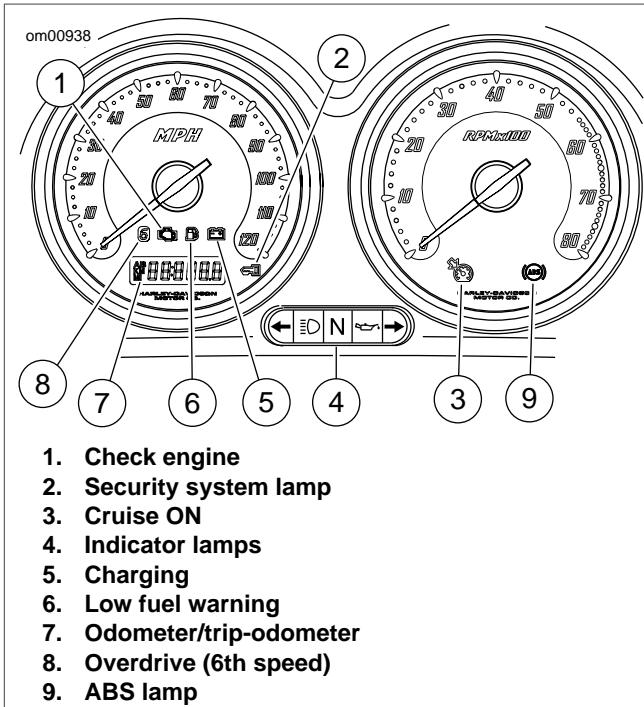

Figure 7. Warning Lamps: FLHTCUSE3
See Figure 7. The odometer (7) registers the number of miles/kilometers the vehicle has traveled. Odometer will display mileage when bike is OFF when function button is pressed. There is no need to turn the bike on to check the odometer reading.
See Figure 7. To reset the trip-odometer to zero, press button to reset speedometer display to the ODOMETER mode and hold the button in for approximately 2-3 seconds. The speedometer will switch to the trip-odometer mode and reset the display to zero.
See Figure 7. The engine check lamp (1) indicate whether or not the engine/engine management system is operating normally. The engine lamp color is amber.
See Figure 7. The low fuel lamp (6) illuminates to indicate that you have approximately 1 gallon (3.8 liters) of gasoline left in the tank. The low fuel lamp color is amber.
See Figure 7. The battery charging icon (5) illuminates to indicate either overcharging or undercharging of the battery. Refer to MAINTENANCE AND LUBRICATION, Battery: General.
See Figure 7. The security lamp (2) will illuminate when the security system is armed. Refer to SMART SECURITY SYSTEM, Harley-Davidson Smart Security System.
- See Figure 7. When the cruise control icon in the tachometer face is orange it indicates that cruise control is ON but disengaged. When the icon is green it indicates that the cruise control is ON and engaged.
See Figure 7. The amber ABS indicator lamp begins to flash at key ON to indicate that the system is operational. It continues to flash until motorcycle speed exceeds 3 mph (5 km/h). Continuous illumination of the lamp will only occur when ABS detects that the system is malfunctioning. In the diagnostic mode, the lamp will also illuminate to indicate the presence of diagnostic trouble codes (DTCs). See a Harley-Davidson dealer for service.